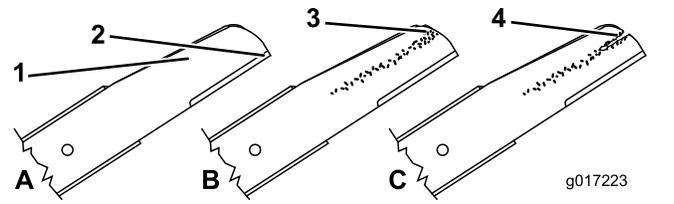

Figure 29
1. Inspect the cutting edges (Figure 29). If the edges are not sharp or have nicks, remove the blades and have them sharpened or replace them.
2. Inspect the blades themselves, especially the curved area (Figure 29). If you notice any damage, wear, or a slot forming in this area, immediately replace them with new blades.